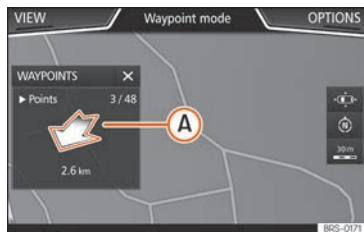

Fig. 229 Offroad route guidance mode
- The general direction of travel is indicated straight ahead by direction arrows in the Infotainment System pop-up window »» Fig. 229 **A**.